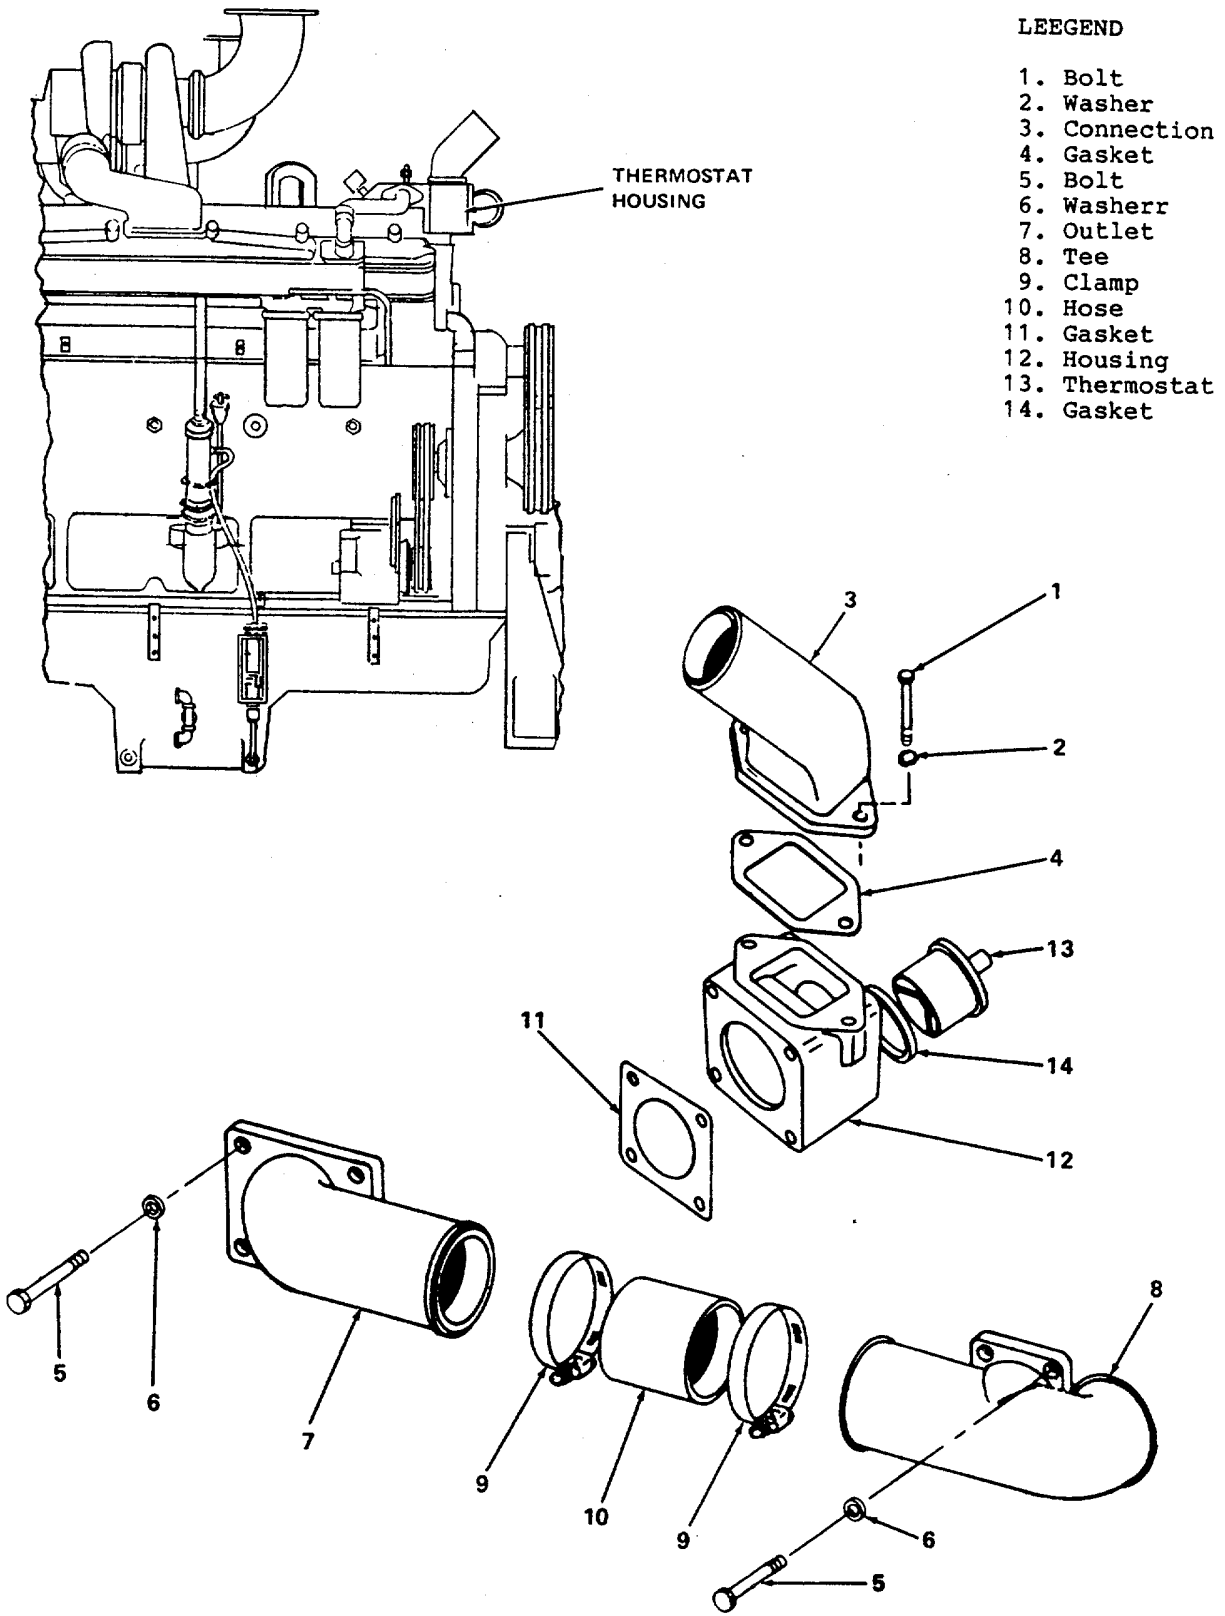

Figure 4-53. Thermostat Removal
**4-80. THERMOSTAT.** (See figure 4-53.) The thermostats are inside the thermostat housing mounted at the top front of the engine.
a. Removal. Drain coolant and remove assembly (figure 4-53) as follows:
- (1) Remove bolts (1), washers (2), connection (3), gasket (4), bolts (5), and washers (6).
- (2) Loosen clamps (9), then remove outlet (7), tee (8), hose (10), and gasket (11).
- (3) Remove thermostat (13) and gasket (14) from housing (12).